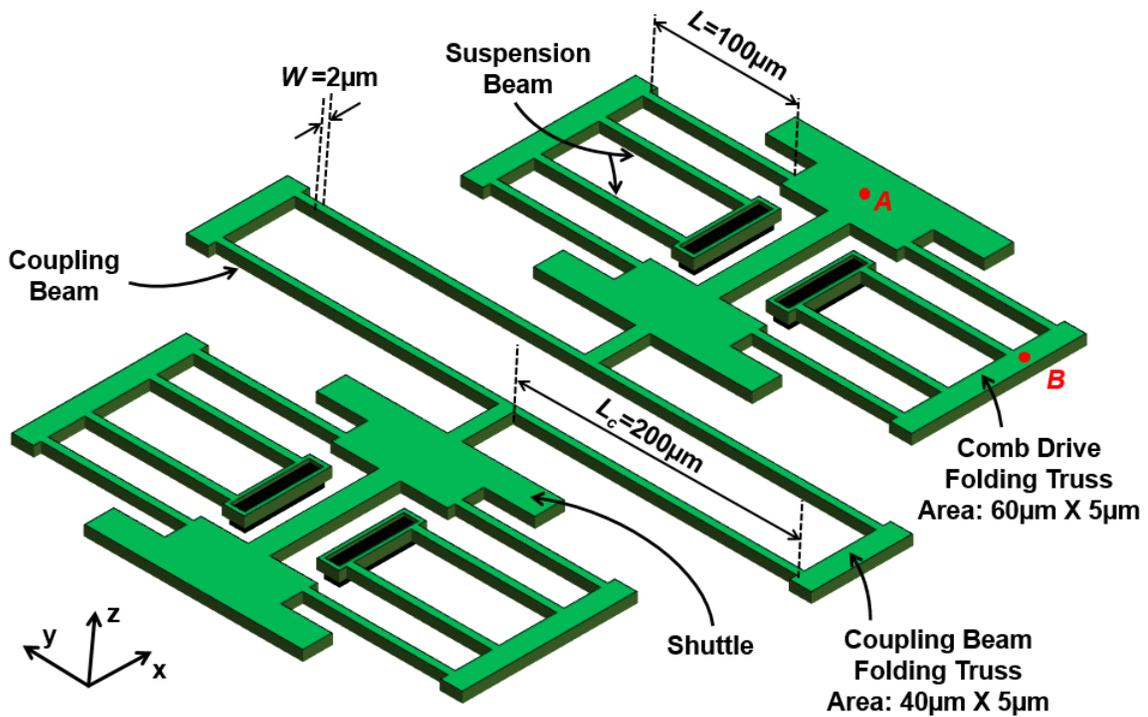

Fig. PS4.1
1. Fig. PS4.1 below presents a small micromechanical filter constructed in a $2\mu\text{m}$ -thick structural layer. Here, everything is suspended $2\mu\text{m}$ above the substrate except for the anchoring locations indicated as the darkly shaded regions. Data on the structural material used in this problem is given in Table PS4.1. Assume that all folding trusses and shuttles are rigid in all directions, including the vertical, z direction. Also, assume that all suspension and coupling beam widths are $2\mu\text{m}$.
- (c) Suppose an incomplete HF/DI rinse release step were performed, after which the shuttles were not fully released, but all suspension beams and folding trusses were successfully released. Using the data in Fig. PS4.1, will the coupling beam folding trusses be stuck down?